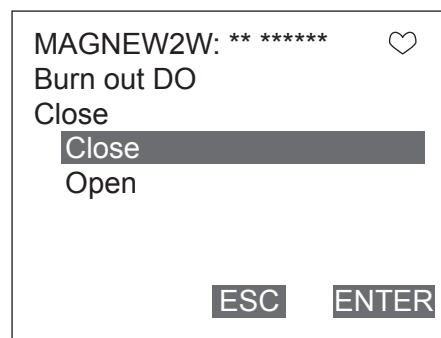

Figure 7-37
Figure 7-37 will then be displayed.
2. Once the display as shown in Figure 7-37 appears, move the arrow key up or down to select OPEN or CLOSE. After making a selection, press F4 (ENTER). If F3 (ESC) is pressed here, the selection will be canceled and the display will return to the Digital output menu.